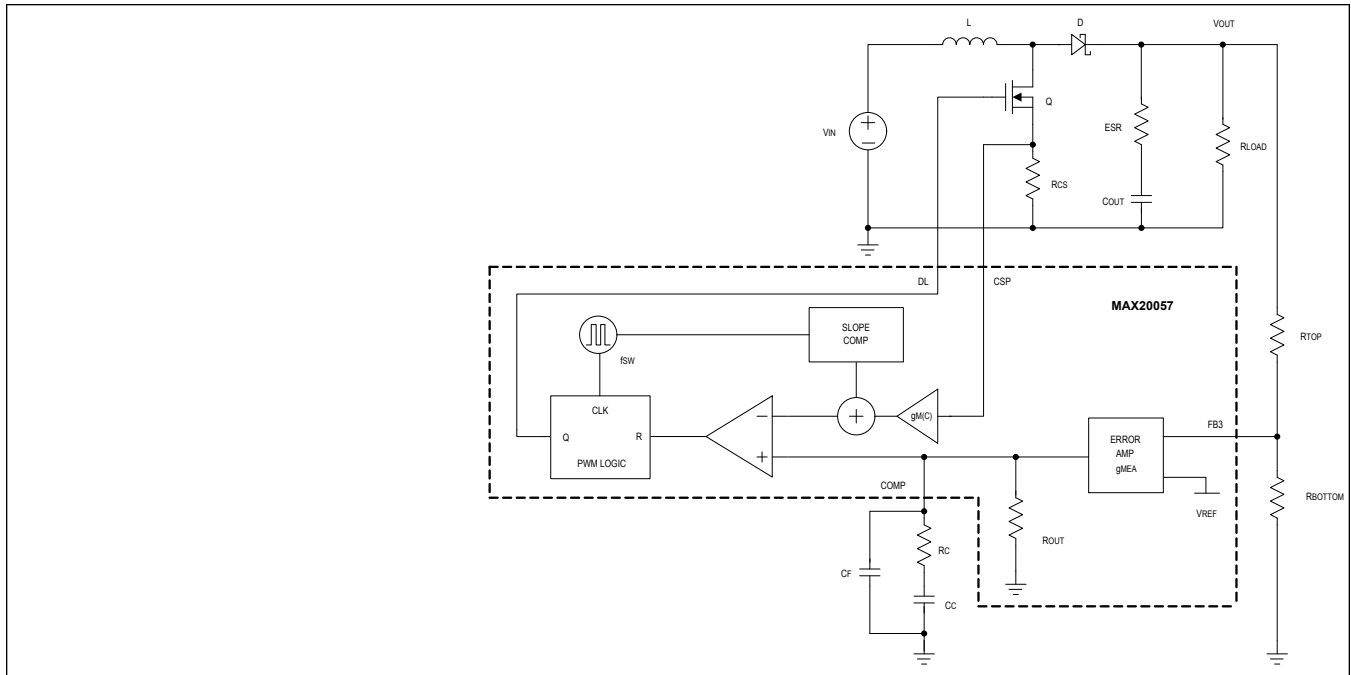

Figure 1. Boost Control Loop
The boost regulation loop consists of power modulator, feedback resistor network, and error amplifier, as shown in Figure 1. The power modulator includes current sense circuitry ( $R_{CS}$ ), the external MOSFET (Q) and rectifier diode (D), the inductor (L), output capacitor ( $C_{OUT}$  and its ESR), and the load ( $R_{LOAD}$ ). Its transfer function is expressed below: